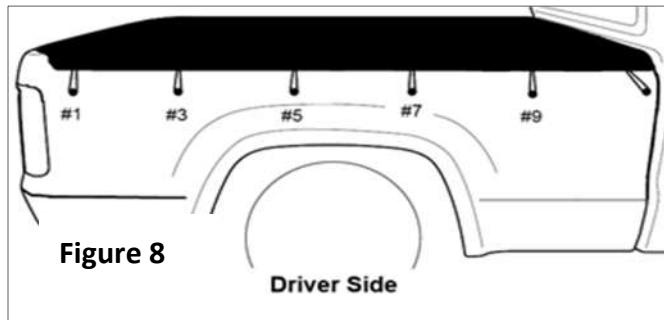

Figure 8
- Fit the remaining buttons following the sequence in **Figures 8 and 9**.